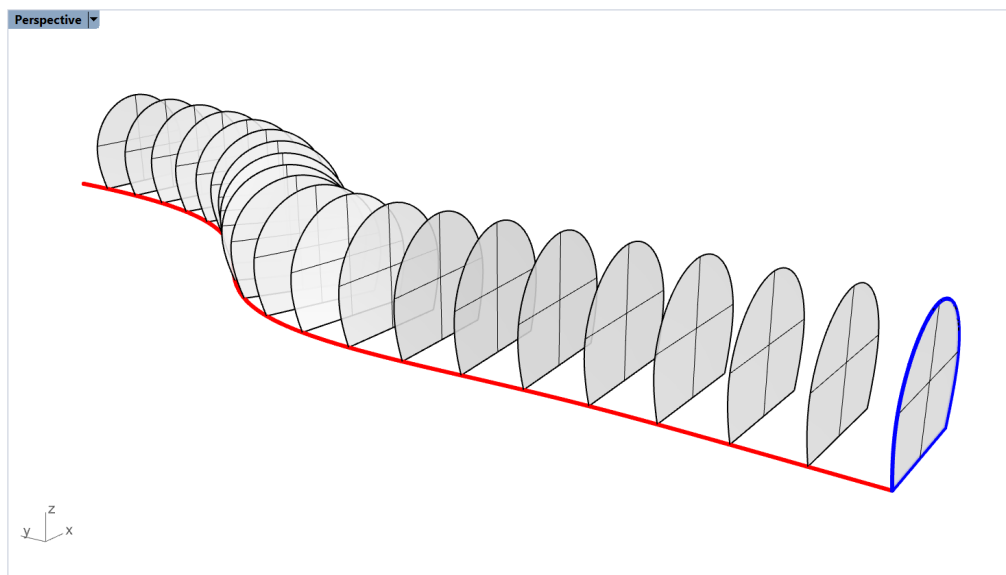

Figure 55: Creation of excavation stages by duplicating initial cross-section surface. Tunnel surface is not shown.
11. Select the initial cross-section surface and use command **_ArrayCrv** to duplicate it along the direction path (red curve) with a spacing of roughly 5 m; this will create excavation stages that can be gradually removed during numerical simulations (Figure 55). In the command options pop-up window, set *Distance between items* = 5, *Orientation* = *Freeform*.